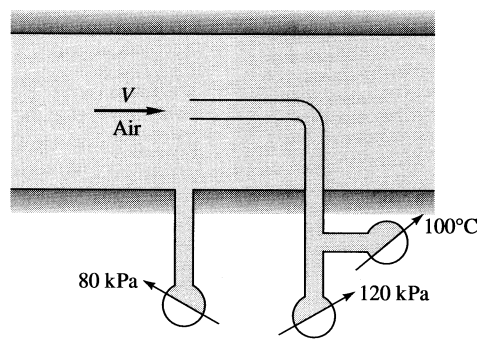

Fig. P9.22
**9.22** Given the pitot stagnation temperature and pressure and the static-pressure measurements in Fig. P9.22, estimate the air velocity  $V$ , assuming (a) incompressible flow and (b) compressible flow.